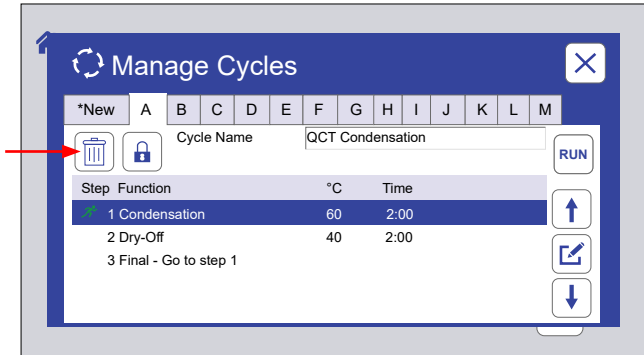

Figure 8.7.2a: Touch the delete icon to delete the selected cycle.
- o Delete a cycle (Figure 8.7.2a).